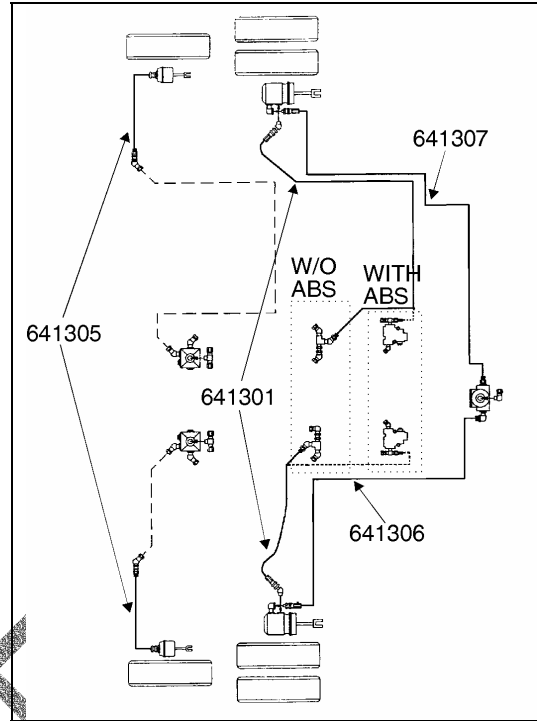

FIGURE 4
B. The hoses that must be changed are identified on figure 4 (part numbers of the hoses that should be used are identified on the figure). Each one should be replaced as described in procedure in step A.